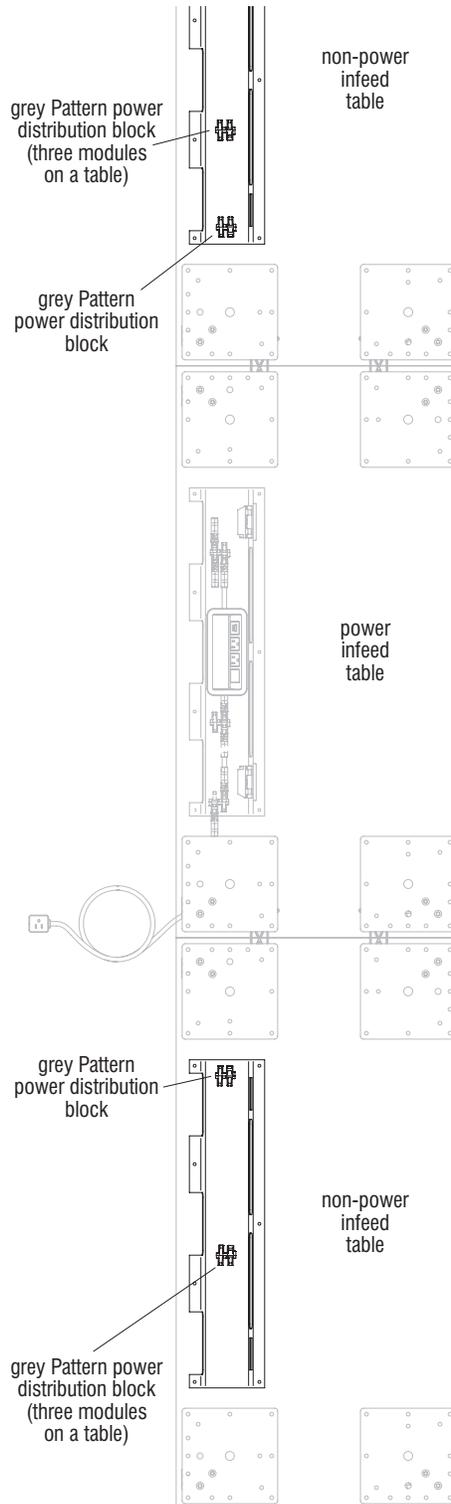

Figure 3 - (top view)
7. Locate and distribute the required number of loose grey power distribution blocks along the run of non-power infeed tables which are to receive Pattern electrical. One grey distribution block is required for every two power modules on a table. No more than two grey distribution blocks will be used per non-power infeed table (Figure 3).